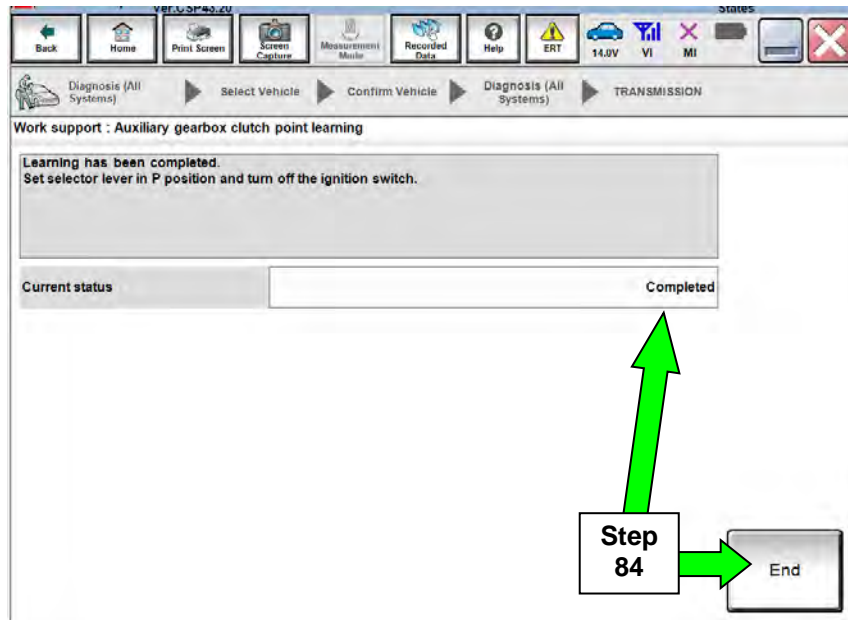

Figure 45
84. Continue to depress the brake pedal until the Current status shows “Completed” as shown in Figure 45 on the next page.